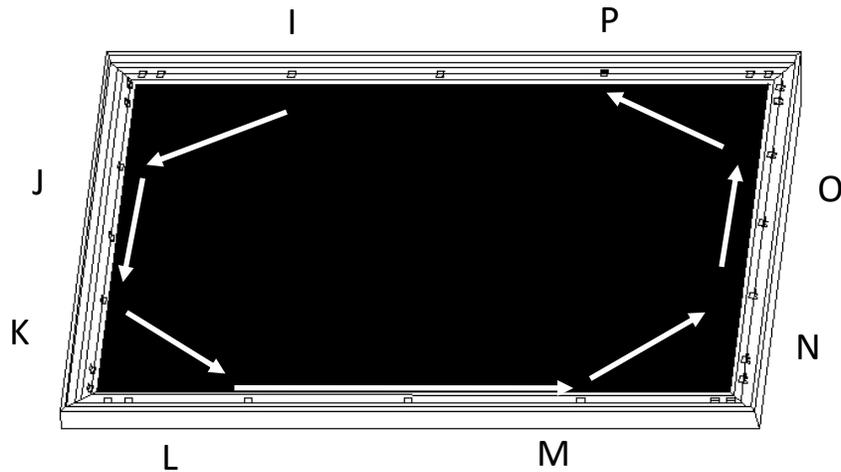

Fig.10
- (5) Next, fasten a fix plate on the center of each frame side in the following order I→J→K→L→M→N→O→P as shown in Fig.10.